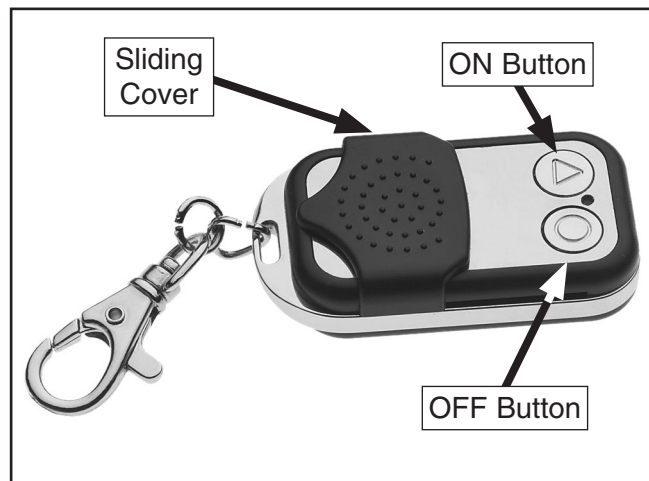

Figure 5. Remote controller buttons.
4. Press either button on the remote controller (see **Figure 5**)—you will hear three beeps and the red receiving light on the switch box will flash three times.